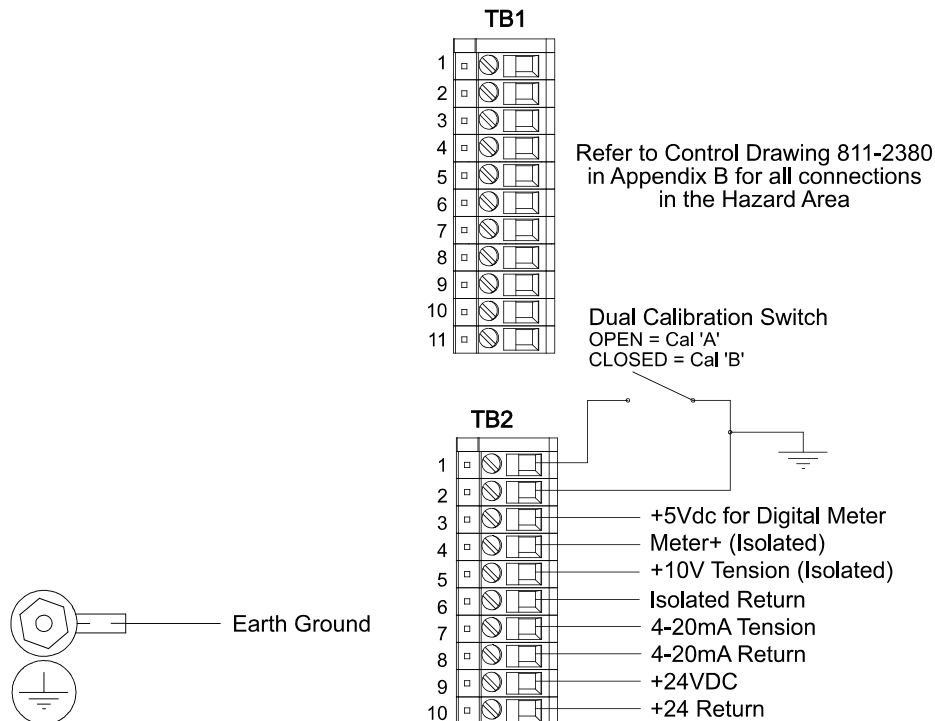

Figure 5 - ELECTRICAL CONNECTIONS FOR HAZARDOUS & SAFE AREAS
2.5 ELECTRICAL CONNECTIONS OF STANDARD FEATURES (Reference Fig. 5)
2. Make your connections between the indicator and your other tension control equipment, variable speed drive systems, computers, or other devices located in "safe" areas in accordance with Fig. 5.
3. If you intend to use the Dual Calibration feature, make your connections between the CAL A / CAL B selection switch and the indicator in accordance with Fig. 5